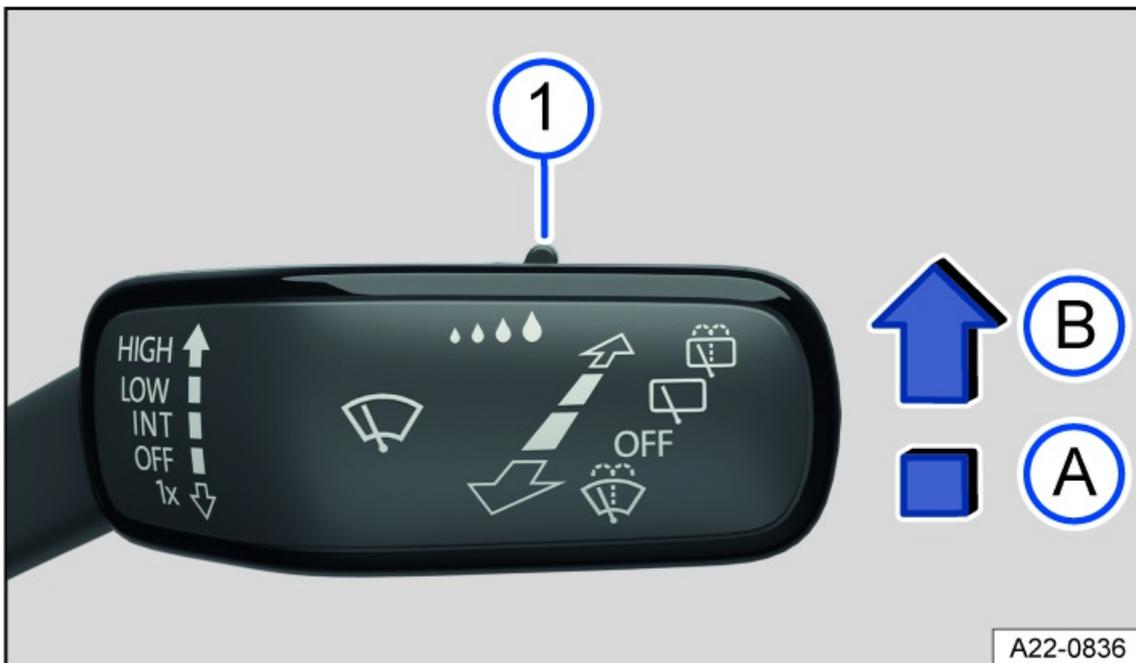

Fig. 82 On the right side of the steering column: windshield wiper lever.
1. Press the lever into the desired position *fig. 82*.
The sensitivity of the rain/light sensor can be manually adjusted with the switch in the windshield wiper lever fig. 82, ⇒ .